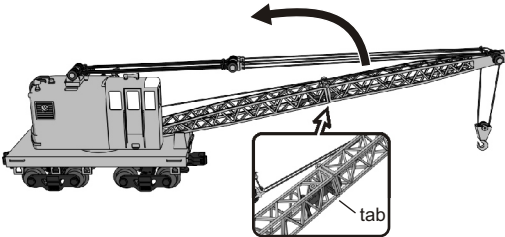

Figure 3. Fold the Boom back by releasing the latch
3. Press the small tab that protrudes from under the boom, in the middle, until the latch keeping the boom straight releases. Bend the top half of the boom back toward the car body and prop the boom onto the chock below. (See figures 3 & 4)